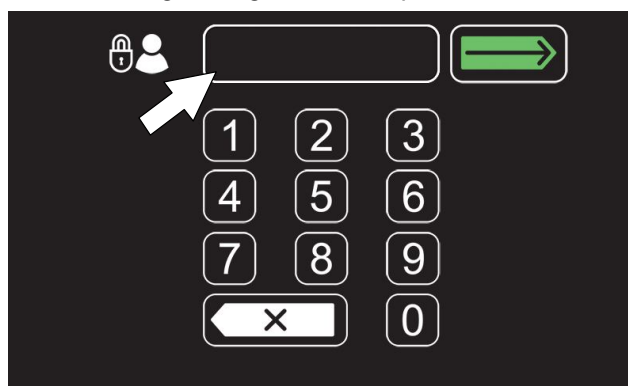

FIG. 180
6. Now at machine start up, the login screen will display (Figure 180). The user will need to enter their assigned login code to operator machine.